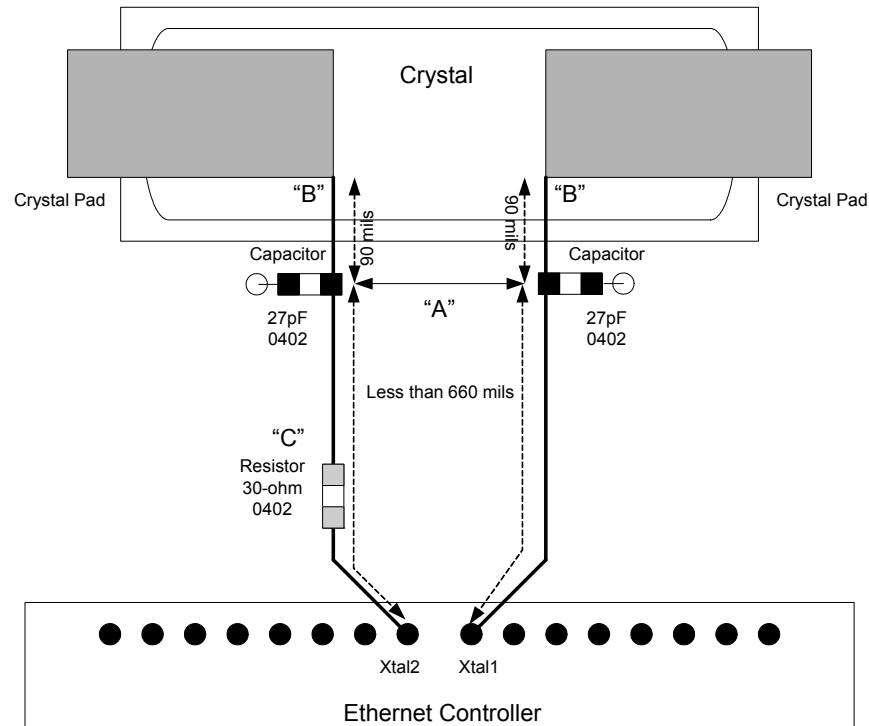

Figure 15. Recommended Crystal Placement and Layout
- Place load capacitor solder pad directly in line with circuit trace (see Figure 15, point A).
- Place a 30-ohm (5% tolerance) 0402 series resistor on Xtal2 (see Figure 15, point C). The location of the resistor along the Xtal2 trace is flexible, as long as it is between the load capacitor and the controller.
- Route Xtal1 and Xtal2 traces to nearest inside corners of crystal pad (see Figure 15, point B).